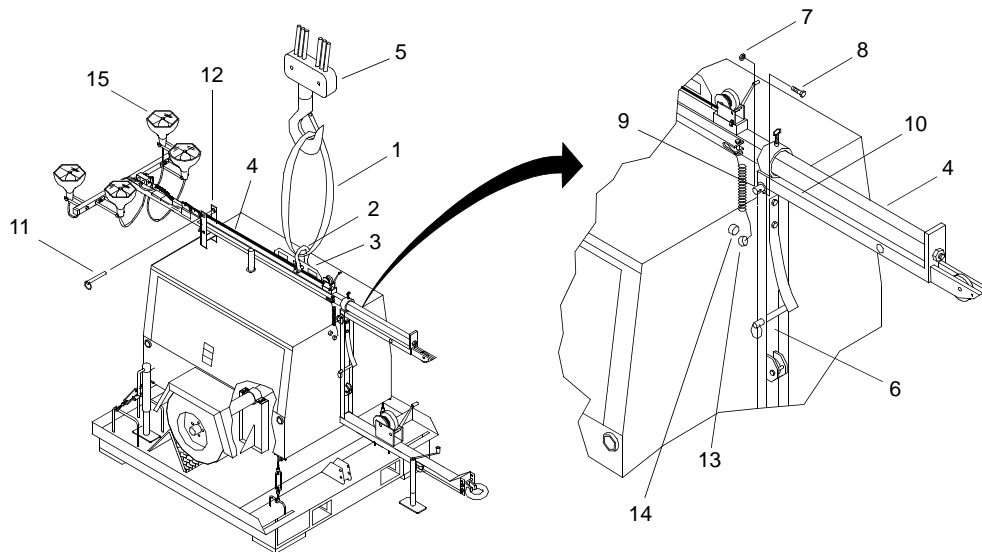

Figure 4. Tower Installation
23. Attach 5,300 lb sling (figure 4, item 1) and shackle (figure 4, item 2) to lift point (figure 4, item 3) on tower (figure 4, item 4).
24. Using crane (figure 4, item 5), sling (figure 4, item 1) and shackle (figure 4, item 2), position tower (figure 4, item 4) over tower support (figure 4, item 6).
25. Remove nut (figure 4, item 7), retaining bolt (figure 4, item 8) and pivot pin (figure 4, item 9) from upper end of tower support (figure 4, item 6).
26. When guide holes align on tower support (figure 4, item 6) and tower pivot support (figure 4, item 10), install pivot pin (figure 4, item 9).
27. Install retaining bolt (figure 4, item 8) and nut (figure 4, item 7) on pivot pin (figure 4, item 9). Tighten nut (figure 4, item 7).
28. Remove tower rest retaining pin (figure 4, item 11) from tower rest (figure 4, item 12).
29. Lower tower (figure 4, item 4) onto tower rest (figure 4, item 12) and secure tower (figure 4, item 4) with tower rest retaining pin (figure 4, item 11).
30. Remove sling (figure 4, item 1) and shackle (figure 4, item 2) from lift point (figure 4, item 3) on tower (figure 4, item 4).
36. Connect tower junction box electrical cable plug (figure 4, item 13) to 125V receptacle (figure 4, item 14) on front of light tower to supply power to lights (figure 4, item 15).